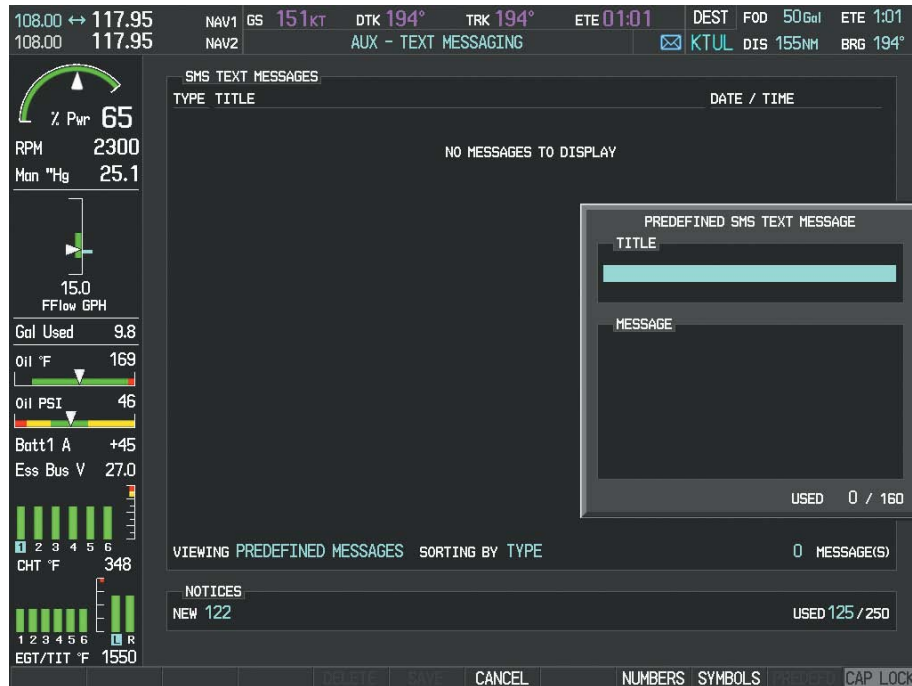

Figure 8-98 Composing a Predefined Message
- c) Press the **ENT** Key. The PREDEFINED SMS TEXT MESSAGE Window is now displayed as shown in Figure 8-98.